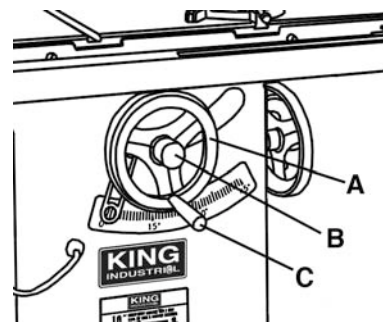

FIGURE 7
Position a key into the keyway of the shaft, align the keyway of the handwheel (A) Fig.7 and slide it onto the shaft. Tighten the set screw on the handwheel hub to secure it in place. Insert the center lock knob (B) into the center hole in the shaft and tighten in a clockwise direction. Then thread the handwheel handle (C) into the handwheel. Repeat for the second handwheel.